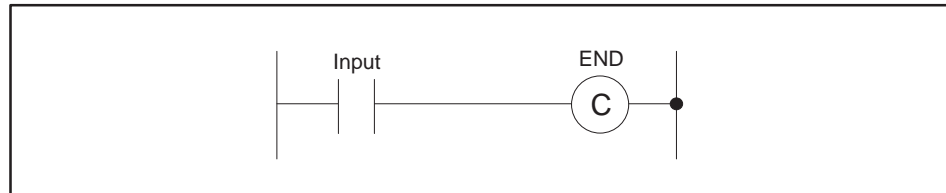

Figure 6-23 ENDC Format
**ENDC Description** The ENDC instruction (Figure 6-23) can terminate the program scan under specific conditions. Since any instructions after an active ENDC instruction are not executed, this instruction can be used to decrease scan time.